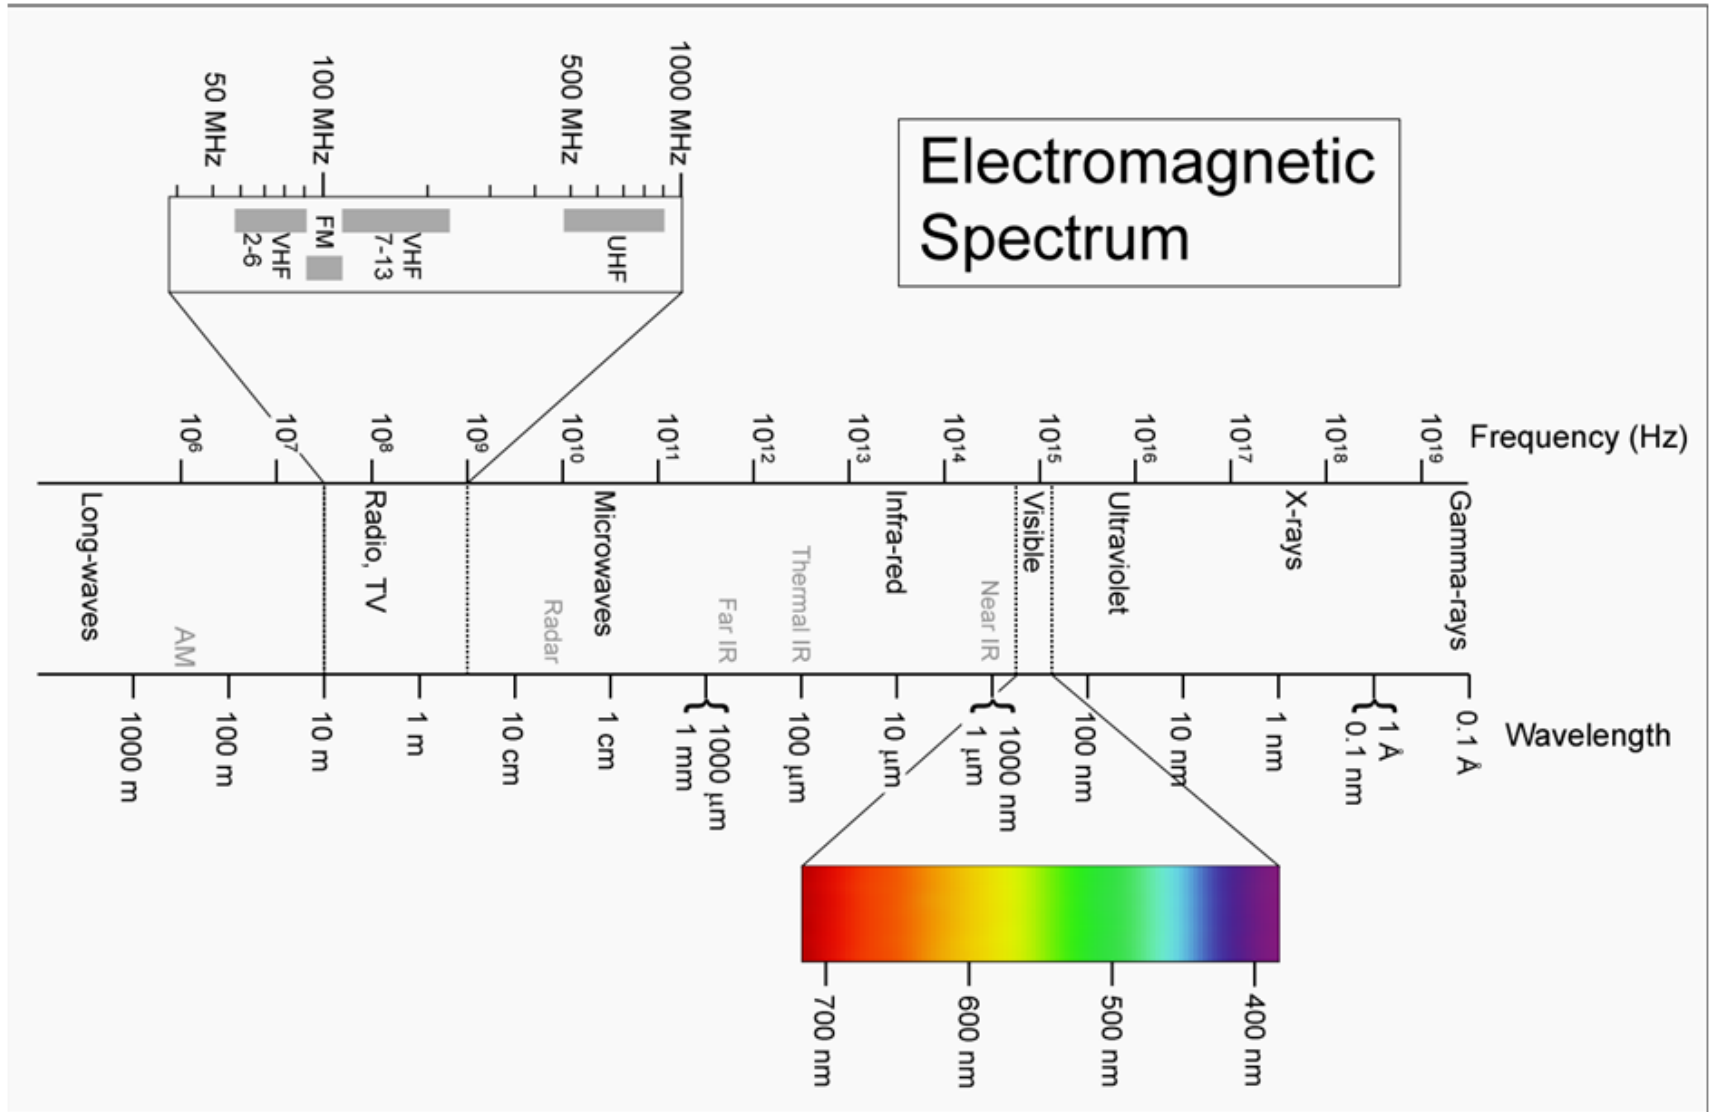

Fig. PF-7-1-1 Electromagnetic Spectrum
- It forms a very narrow band of frequencies within the Electromagnetic Spectrum, bordered by Infra-red and Ultra-violet radiation (See **Fig PF-7-1-1**).